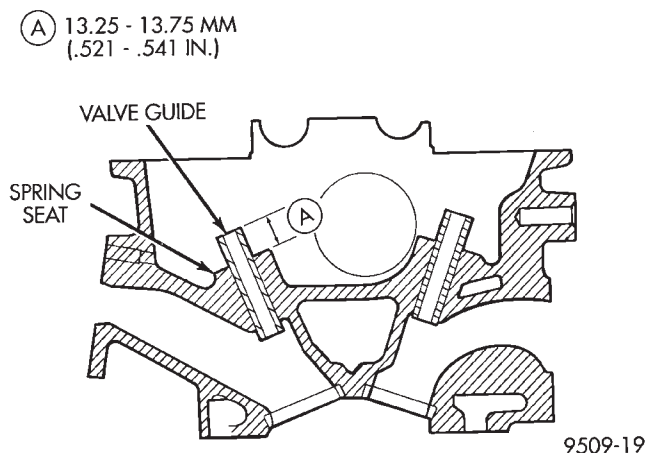

Fig. 40 Valve Guide Height
(3) Check valve guide height (Fig. 40).